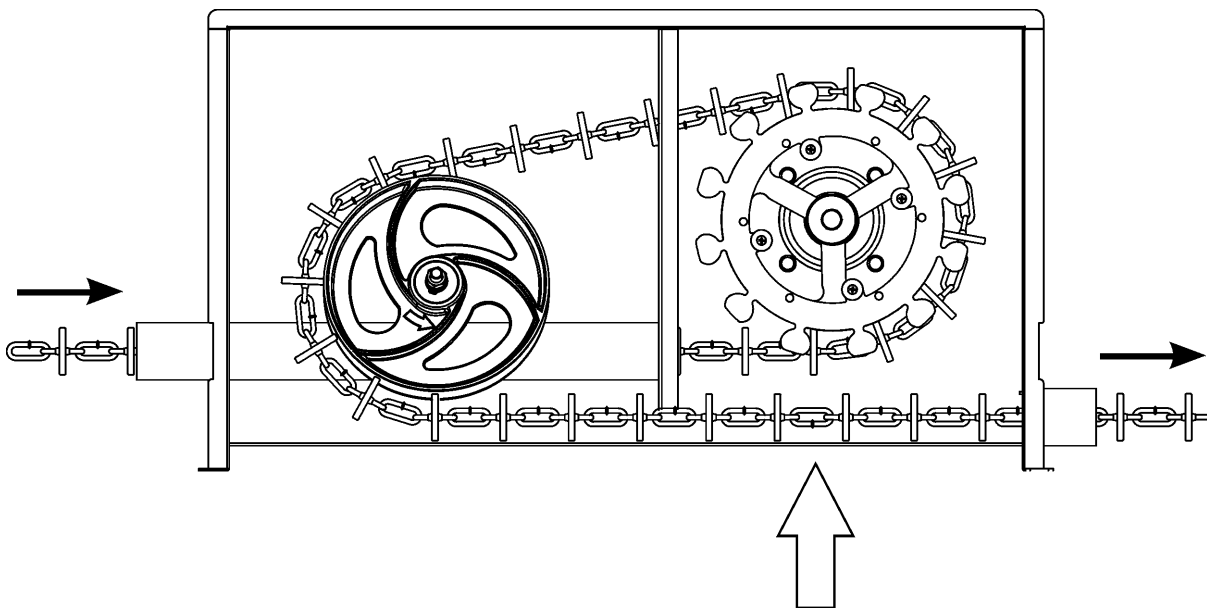

Figure 10-25: Guidance of chain through the drive
4. Insert the chain up to the drive unit and guide the chain correspondent to figure 10-25 through the drive.
6. Shorten the conveyor chain / rope by the required length and connect both ends at the location shown in figure 10-25.